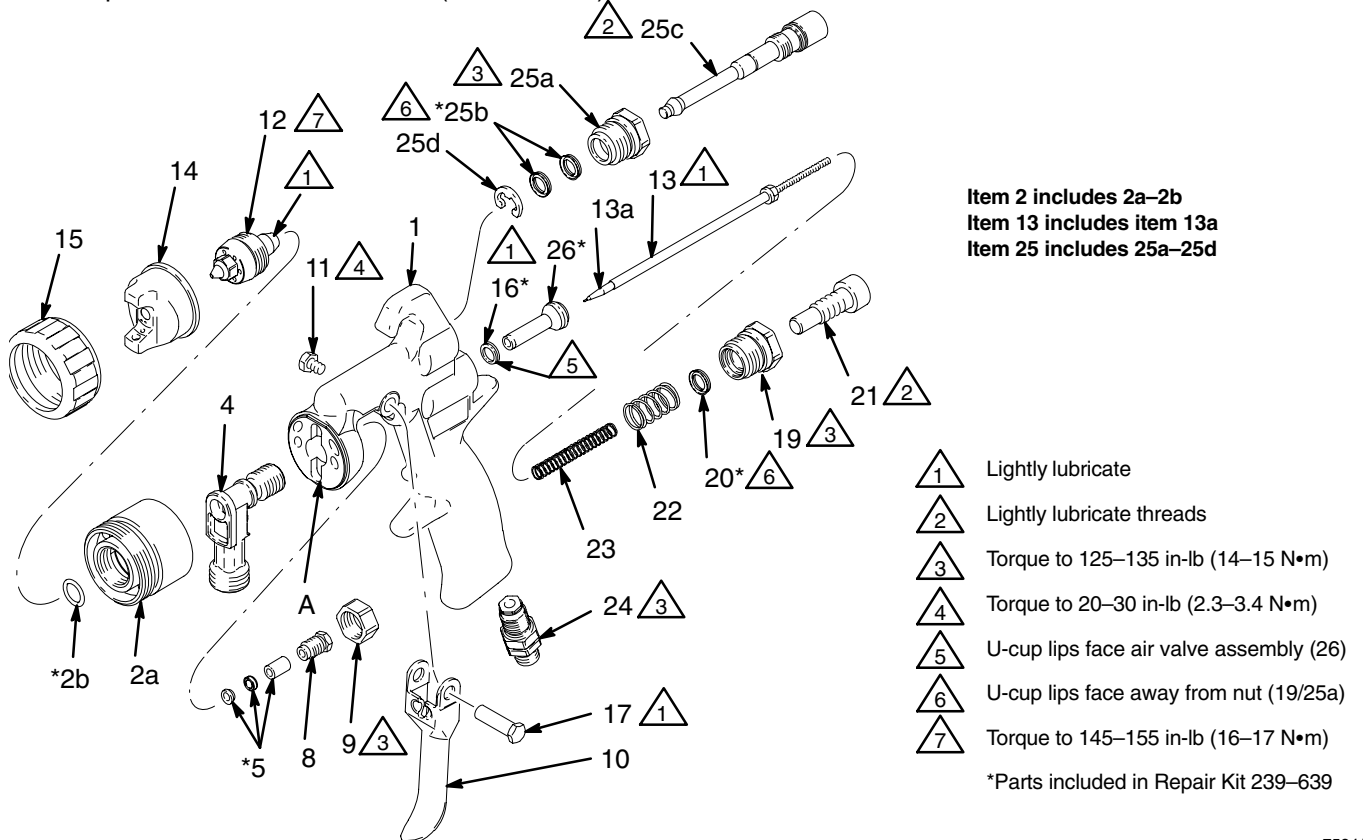

Fig. 28
- Lightly lubricate the parts indicated in Fig. 28 with lubricant 111265.
4. Remove the fluid adjustment knob (21) and fluid spring (23). See Fig. 28.
5. Pull the fluid needle (13) out the back of the gun.
6. Remove the screw (11), pin (17), and trigger (10).
7. Remove the hex nut (9) with the gun tool (28).
8. Remove the spray housing (2a) and insert (4).
9. Unscrew the packing screw (8) from the insert (4) with the gun tool (28).
10. Use the back end of the fluid needle (13) to push the three fluid packings (5) out of the insert (4). Be careful not to damage the needle or insert. Discard the old fluid packings.
11. Check the fluid needle (13) for damage or excessive wear. Replace needle tip or entire needle if necessary.
15. Slide the insert (4) into the spray housing (2a). See Fig. 28. Align the housing with the slot and lip (A) on the gun and slide the insert into the gun body (1).
16. Tighten the hex nut (9) onto the insert (4) hand-tight, then loosen the nut about one turn so the insert (4) and spray housing sit loosely in the gun body.
17. Lubricate and install the fluid needle (13).
18. Lubricate the fluid adjustment knob threads (21), and install the fluid spring (23) and adjustment knob.
19. Install the trigger (10), pin (17), and screw (11). Torque the screw to 20–30 in-lb (2.3–3.4 N•m).
20. To avoid galling of the fluid nozzle seat in the insert (4), apply a thin film of lubricant to the seat. Trigger the gun while you install the fluid nozzle (12) with the gun tool (28). Torque the nozzle securely to 145–155 in-lb (16–17 N•m).
21. Tighten the hex nut (9) securely to 125–135 in-lb (14–15 N•m).
- Gun Repair Kit 239639 is available. The kit includes an o-ring (2b), fluid packing kit (5), u-cups (16, 20, 25b), and air valve assembly (26).
3. Trigger the gun while you remove the fluid nozzle (12) with the gun tool (28).
4. Remove the fluid adjustment knob (21) and fluid spring (23). See Fig. 28, page 19.
8. Remove the spray housing (2a) and insert (4). Remove the o-ring (2b) with a pick and install the new o-ring.
20. Remove the fluid valve nut (19), air valve spring (22), and air valve assembly (26). Discard the air valve assembly. See Fig. 28, page 19.